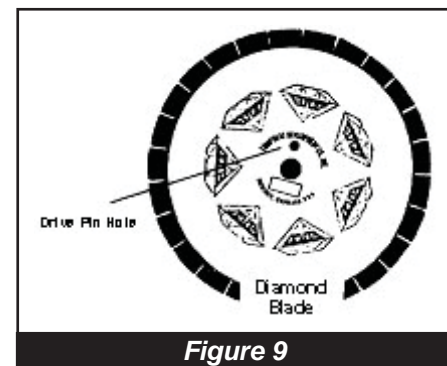

Figure 9
- Check diamond blades for cracks, loose segments and oversize, worn, or out-of-round arbor holes *(See Figure 5 on page 5)*. Do not use any questionable blade since serious injury and/or damage to property can result. Do not use warped, twisted, or out-of-balance blades. Unbalanced blades will wear excessively, vibrate and damage both arbor shaft and bearings. Do not use a blade without a drive pinhole *(Figure 9)*.
Inspect the blades before installing. Check diamond blades for cracks, loose segments and oversize, worn, or out-of-round arbor holes (**Figure 5 on page 5**). Do not use any questionable blade since serious personal injury and/or damage to property can result. Do not use warped, twisted, or out-of-balance blades. Unbalanced blades will wear excessively, vibrate and damage both arbor shaft and bearings. Do not use a blade without a drive pinhole (**Figure 9**).